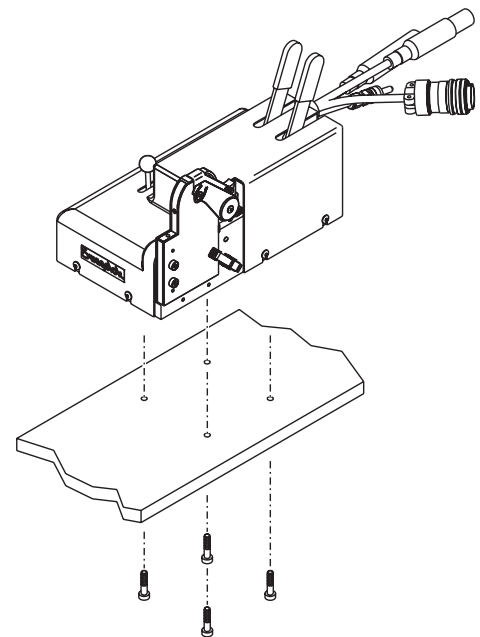

Figure 4 *Optional Mounting of the Weld Head to the Bench*
5. Insert four 1/4 in. × 20 machine screws of appropriate length (not included) through the workbench into the weld head unit. See Figure 4.